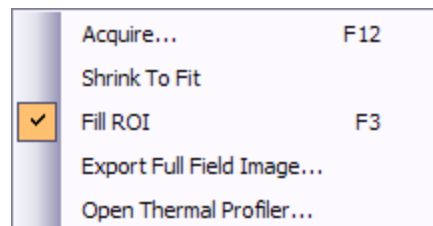

Figure 2.9 Camera Window Context Menu
4. Right-click on the Camera window (inside the ROI) to bring up a context menu (see **Figure 2.9**) that contains the Acquire... command. Click Acquire... or, alternatively, press the **F12** key.